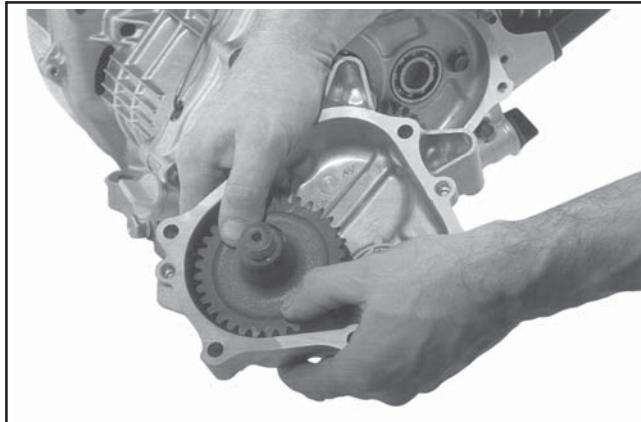

Figure 11-50. Installing Output Shaft Assembly.
5. Lubricate the bearing surfaces with oil, and install the output shaft/gear assembly into the cover. See Figure 11-50.